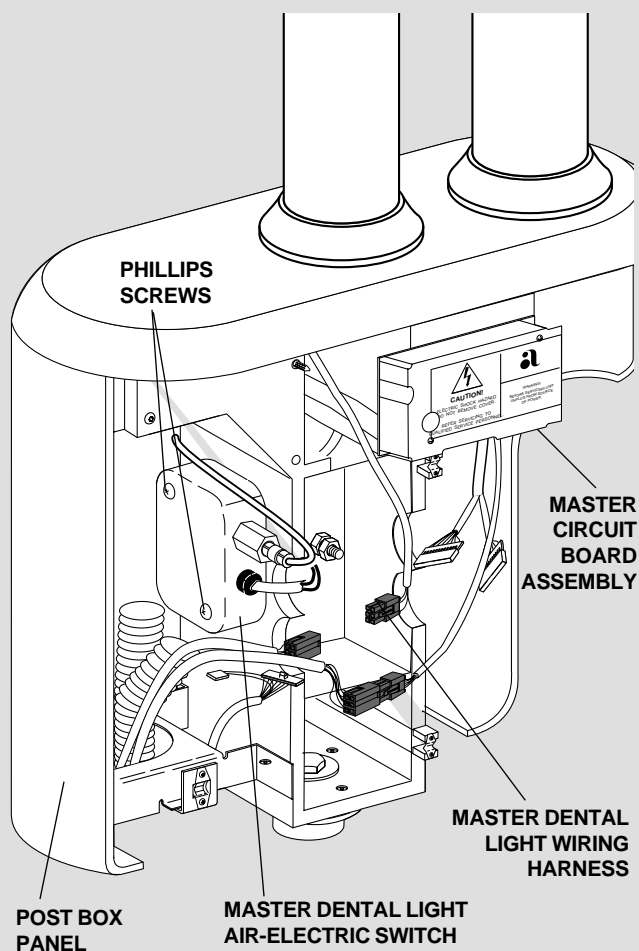

FIGURE 15
Remove the light air-electric switch and two Phillips screws from the light kit. Install the light air-electric switch in the post box (see Figure 15). To ease installation, remove the post box panel. Reinstall the panel when installation is complete.
3. **Cascade Master Dental Lights:** Connect the red 6-pin connectors coming from the dental light wiring harness to the red 6-pin connectors coming from the master air-electric switch (see **NOTE**, Figure 15 on page 5).